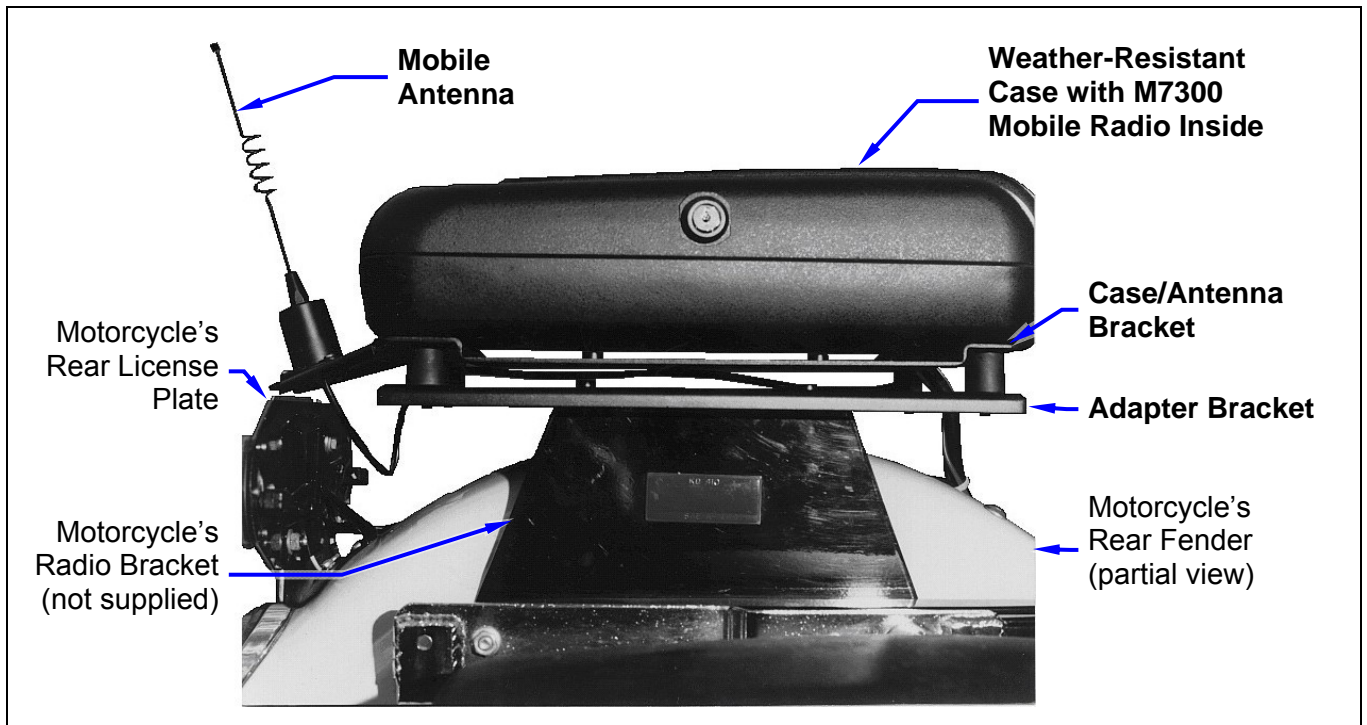

Figure 5-2: Typical Motorcycle Installation (Partial View of Radio Case and Brackets from Right Side)
- Motorcycle’s Radio Bracket (sometimes referred to as an “Interface Bracket”) — Typical type shown in Figure 5-2.